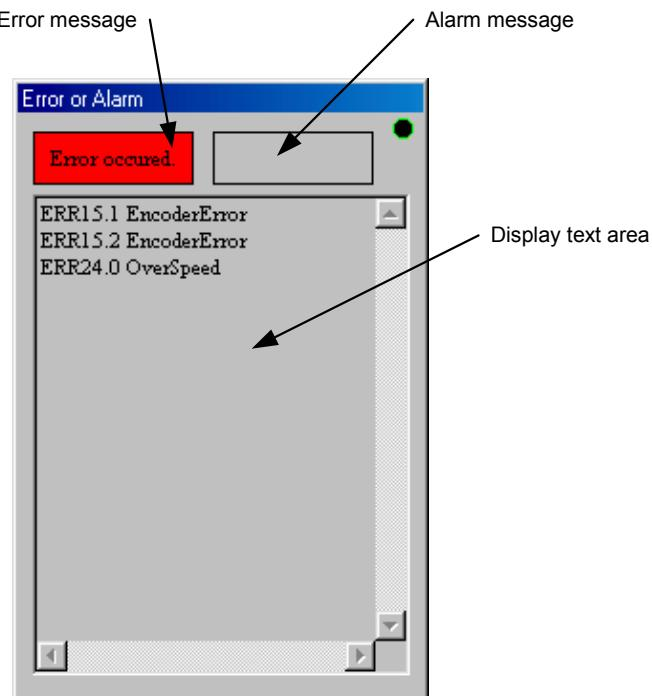

Figure 8.13 “Error or Alarm” dialog box
(4) Error or alarm monitor
In the “Terminal,” click “Error or Alarm (S)” under “Monitor” to display the “Error or Alarm” dialog box (see figure 8.13).